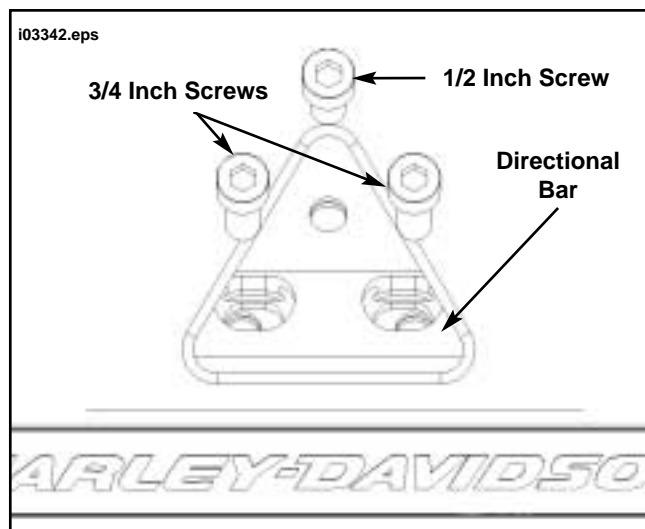

Figure 2. License Plate Bracket/Directional Bar
7. Obtain triangle gasket and new license plate bracket from kit. See Figure 2. Position triangle gasket and attach bracket using 1/2 inch screw through upper bracket hole (at 12 o'clock position). Loosely install to fender using hex kep nut (P/N 7792) from kit.